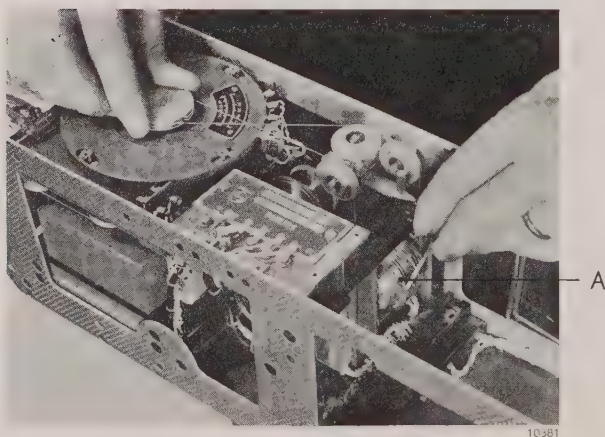

Fig. 28. Setting the switching point
2. From above insert the adjusting hook in one of the holes of the switching disc A and turn the switching disc by pushing the adjusting hook downwards until the microswitch is actuated (which can be heard and/or seen), see Fig. 28. In doing so, hold the rope pulley of the measuring potentiometer firmly.